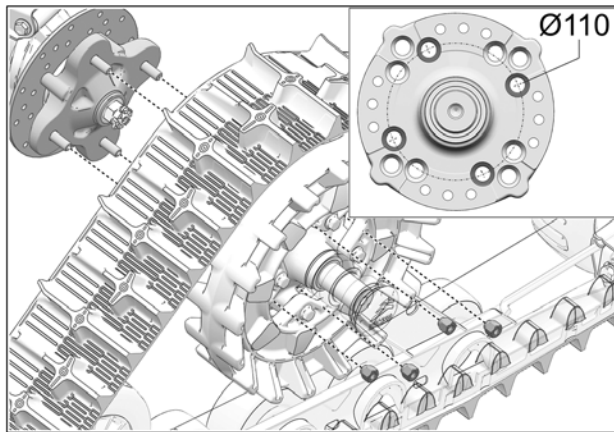

Fig. 10
- Secure undercarriage to rear hub using the vehicle's own lug nuts. Use bolt circle $\varnothing 110$ mm. See Fig. 10